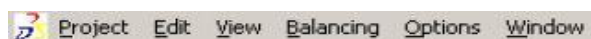

Figure 3: Automatic Line Balancing Menu Bar
- (1) Menu bar. *Please refer to the Figure 3.*